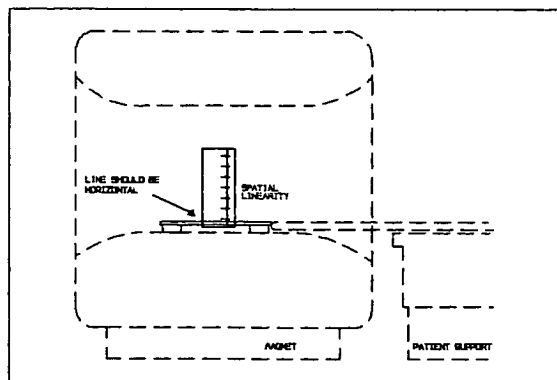

Figure 1 Transversal position of phantom
- For correct position see Figure 1